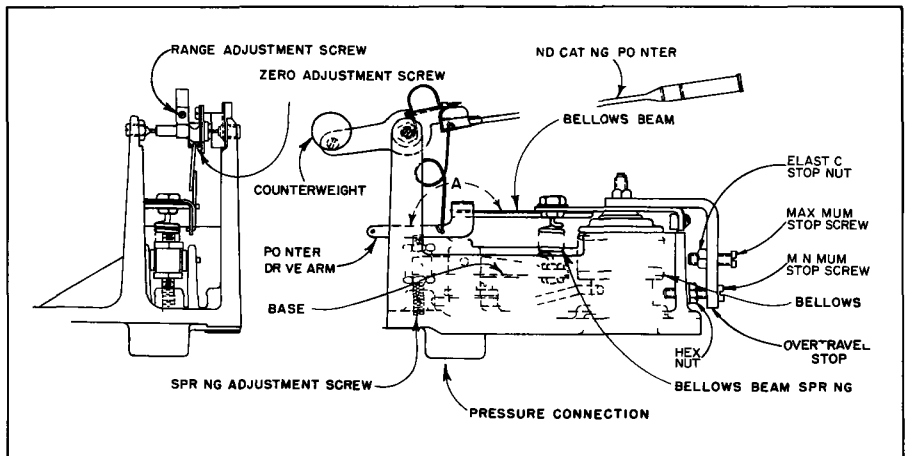

FIGURE 6 Adjustments for Bellows Mechanism, Model A□
- 3 Refer to Figure 6. Connect suitable calibrating device (such as mercury column or test
4 Apply minimum measured range pressure to bellows mechanism. If indicating pointer does not read minimum scale, turn zero adjustment screw (Figure 6) to obtain correct readings.
a pointer reads low at midscale, loosen two screws on pointer drive arm and rotate arm to decrease angle "A" (see Figure 6),
Refer to Figure 6 The bellows mechanism consists of a bellows connected by a spring loaded bellows beam to the pointer drive arm. Increases and decreases in measured pressure expand and contract the bellows, producing movement of the bellows beam. This motion is transmitted thru the pointer drive arm and connecting linkage to produce proportional movement of the indicating pointer.